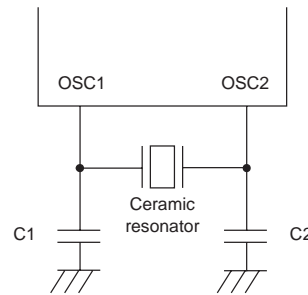

Fig. 3 Ceramic Resonator Oscillation Circuit
- (*1) When oscillated internally under the oscillating conditions in Fig.3, up to the oscillation amplitude generated is allowable.